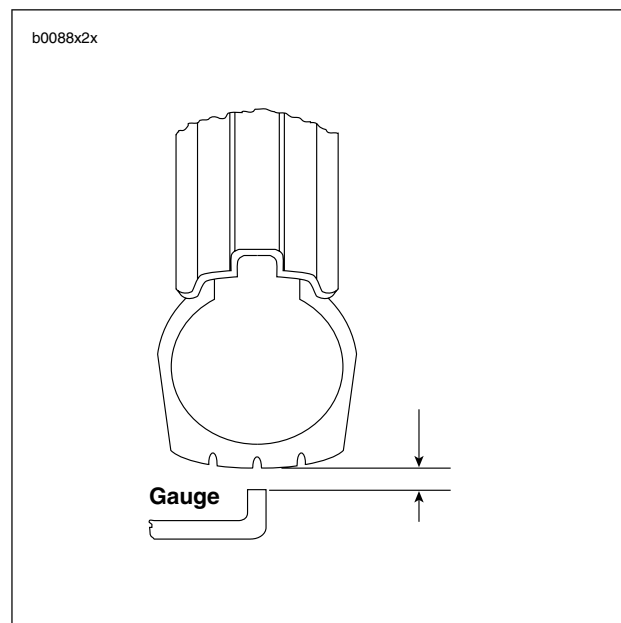

Figure 2-34. Checking Tire Radial Runout
1. See Figure 2-34. Turn wheel on axle and measure tread radial runout.